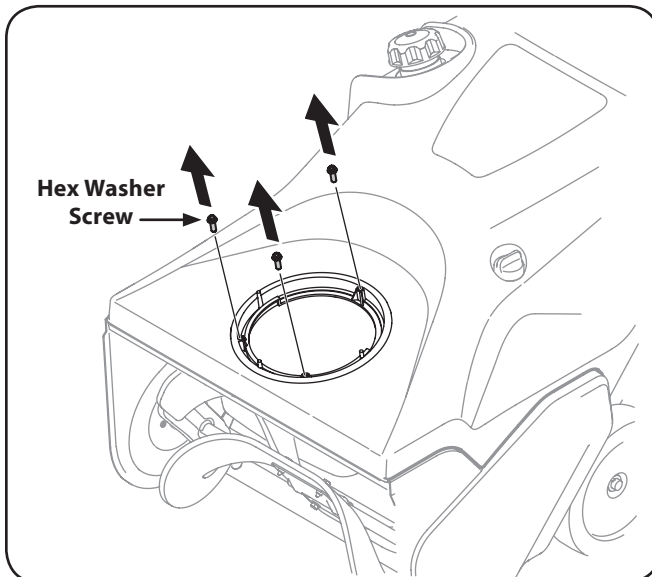

Figure 3-4
2. Remove the hex washer screws in the chute base. See Fig. 3-4.